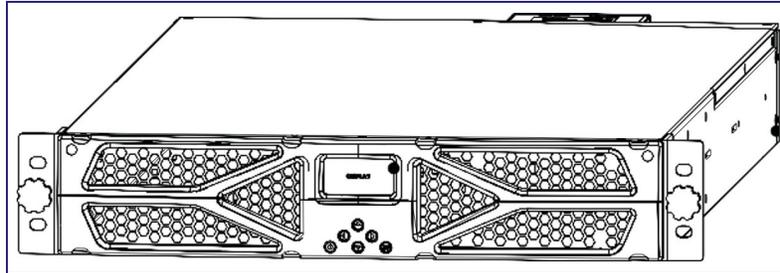

Figure 2.1-1: AC6000 Drawing
- Figure 2.1-1: AC6000 Drawing